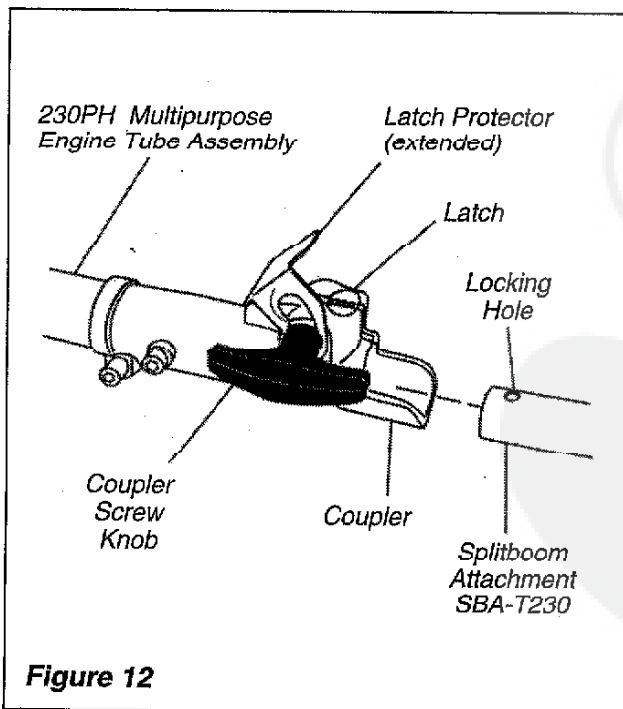

Figure 12
3. Insert the tube into the coupler, with the tool decal facing up, until the line of the decal is flush with the end of the coupler. Twist the tool back and forth until you are sure the coupler latch snaps in place. See Figure 12.